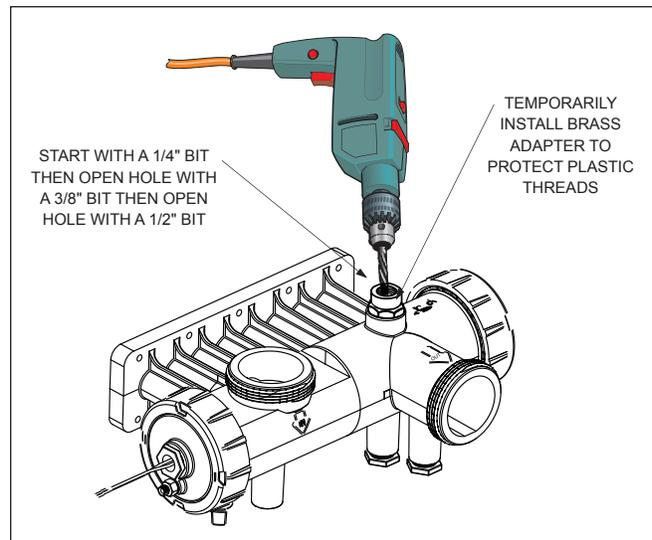

Figure 18. Drill Hole for Pressure Relief Valve
2. Using the countersink in the center of the blind hole as a guide, drill a 1/4" hole through the plastic. See Figure 18.